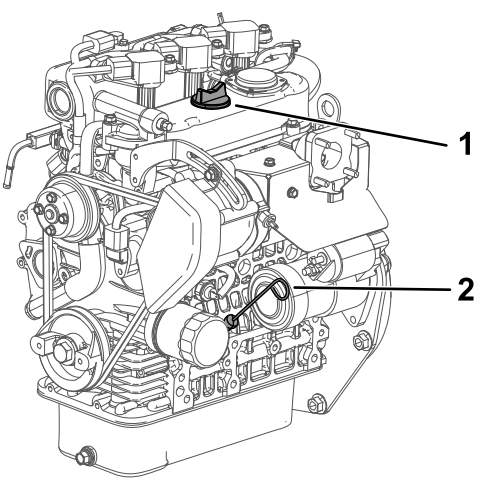

Figure 34
4. Remove the dipstick and wipe it with a clean rag (Figure 34).
5. Insert the dipstick into the tube and ensure that it seats fully (Figure 34).
6. Remove dipstick and check the oil level (Figure 34).
7. If the oil level is low, remove the filler cap (Figure 34), and add enough oil to raise the level to the Full mark on the dipstick.
8. Install the dipstick firmly in place (Figure 34).